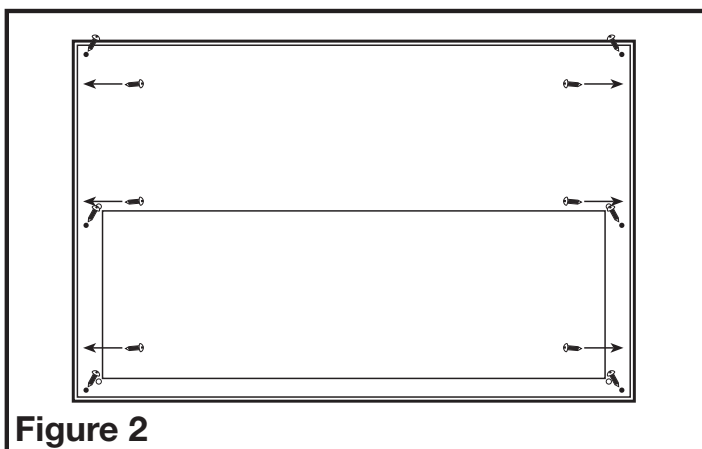

Figure 2
- Secure the liner to the cabinet frame or custom canopy using three screws on each end of the liner and three screws on each side of the top of the liner (**Figure 2**).